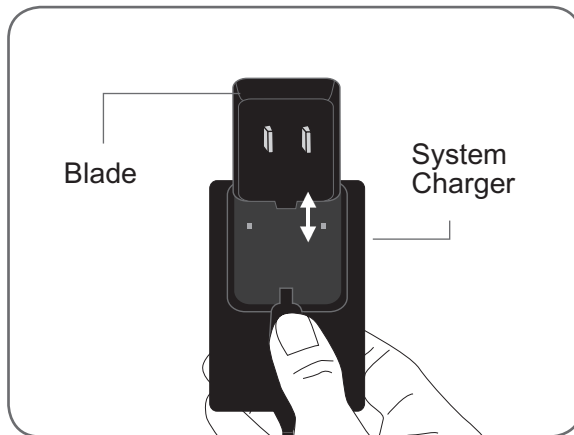

Figure 8-2: Sliding the blade into the system charger.
2. Slide the selected blade into the system charger. See Figure 8-2.